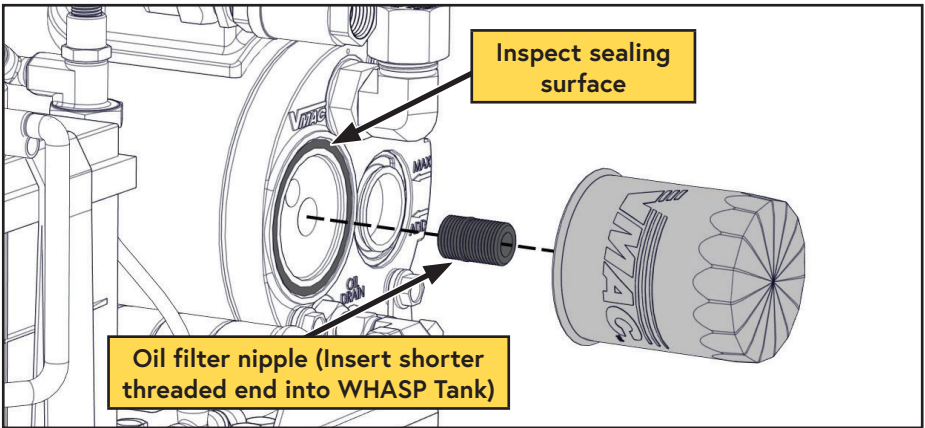

Figure 34 — Compressor oil filter
- ☐ *To reinstall the nipple, thoroughly clean the threads and apply Loctite 242 (blue) to the end with the short threads and replace it in the AOST (Figure 34).
- ☐ Clean the gasket sealing surface on the front of the tank and inspect it for damage. The surface must be free of old gasket material and smooth to ensure a good seal (Figure 34).